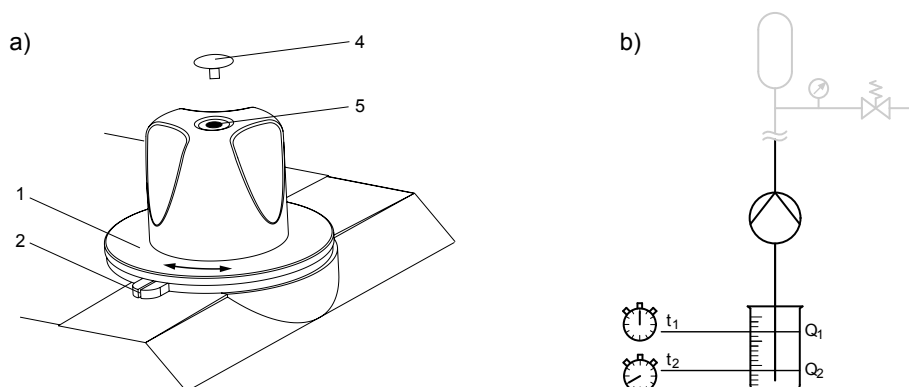

Fig. 22: a) Adjust indicating dial, b) Diagrammatical construction for calibration
4. ➔ Remove the cap (4) from the stroke adjustment dial and slacken off the screw (3) beneath slightly.
5. ➔ Lead the suction line into a measuring beaker - see Fig. 22.
13. ▶ Turn the indicating dial (1) only until the 100% marking is precisely above the indicating slot (2).
14. ▶ Carefully tighten the screw (3) in the stroke adjustment dial and replace the cap (4).